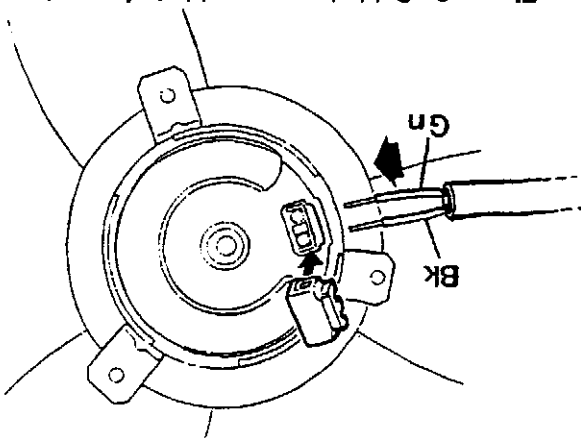

Figure 9. Soldering new cable to fan motor
4. Solder the new cable to the fan motor. See Figure 9.